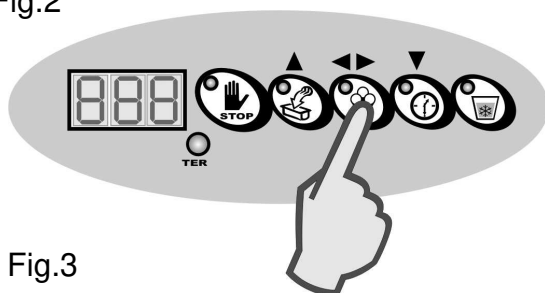

Fig.3
7. If, instead, you wish to change the selected step, press the “**CONFIRM**” key (fig. 3) to view the current value and subsequently press the “**UP**” or “**DOWN**” keys to increase or decrease the value. Subsequently, press the “**CONFIRM**” key to confirm the data.